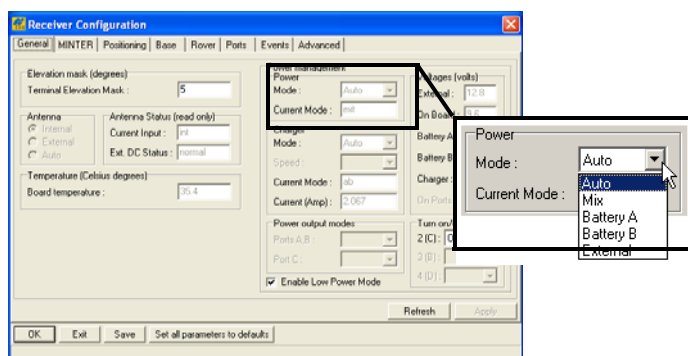

Figure 2-7. Select Power Mode
3. Select the *Power Mode* drop-down list to set the power source (Figure 2-7). *Current Mode* displays the current power source.